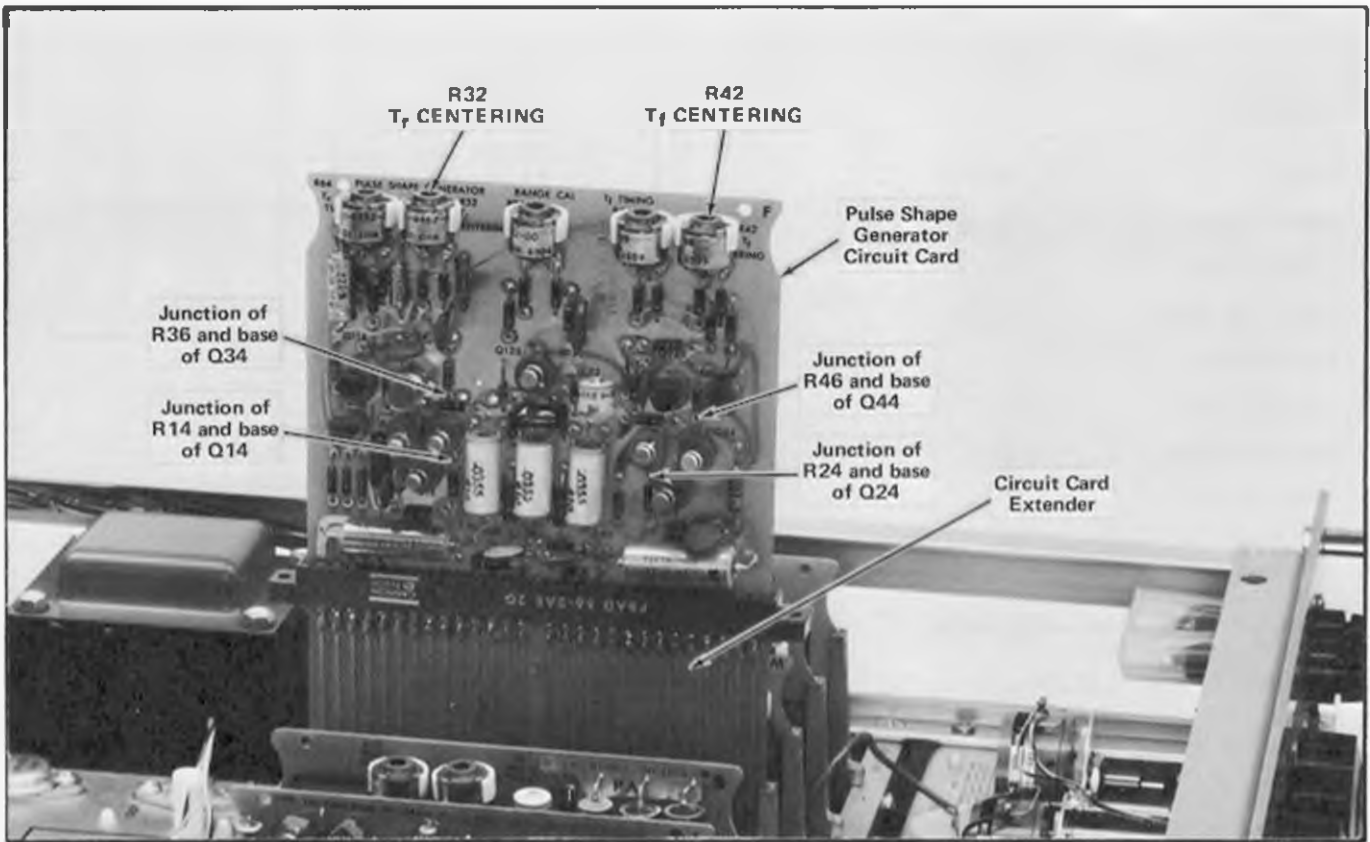

Fig. 6-5. Location of test points and adjustments for setting risetime centering and falltime centering.
- f. Extend the Pulse Shape Generator circuit card on the circuit card extender as shown in Figure 6-5. Turn on the Type R116.
- j. Connect the negative lead of the DC voltmeter to the junction of R14 and the base of Q14 on the extended Pulse Shape Generator circuit card [see Fig. 6-5] and connect the positive lead to the junction of R16 and the base of Q34.
- l. ADJUST—R32, the T1 CENTERING adjustment on the Pulse Shape Generator circuit card [see Fig. 6-5], if the voltage is not correct.
- m. Connect the negative lead of the DC voltmeter to the junction of R24 and the base of Q24 [see Fig. 6-5] and connect the positive lead to the junction of R46 and the base of Q44.
- o. ADJUST—R42, the T1 CENTERING adjustment on the Pulse Shape Generator circuit card [see Fig. 6-5], if the voltage is not correct.
c. Turn R22, the WIDTH TRIG SENS adjustment on the Width Generator circuit card (see Fig. 6-5), fully clockwise, then counterclockwise until one stable pulse appears on the test oscilloscope CRT. Note the position of R22.
e. Reset the Type R116 MODE switch to DOUBLE. Two pulses should appear on the test oscilloscope CRT. If not, adjust R22, the DELAY TRIG SENS adjustment on the Delay Generator circuit card (see Fig. 6-5) to obtain two pulses. (It should be noted that both the Width Generator and Delay Generator circuit cards have R22 adjustments.)